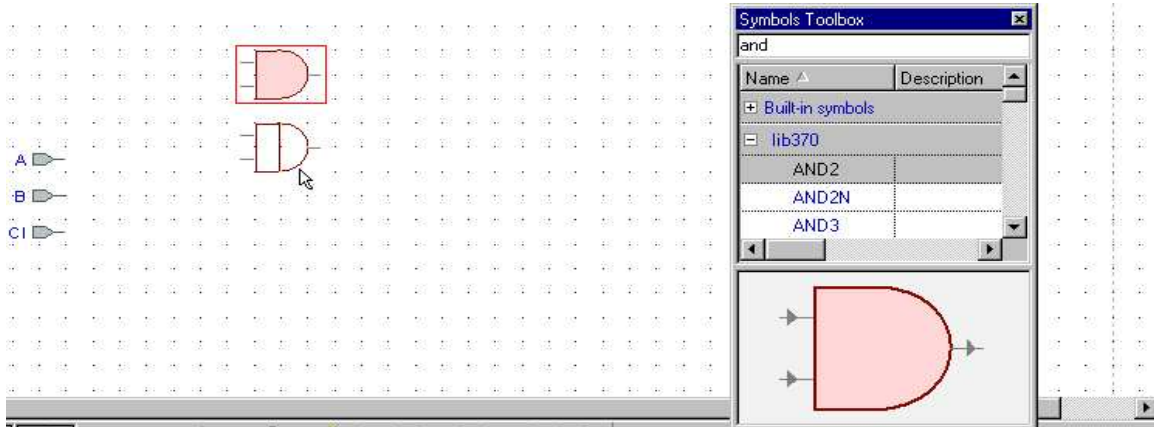

Figure 19
- Active-HDL uses the standard Windows user-interface to select, move, and copy items in the schematic (i.e., drag, Ctrl-drag for copying multiple parts, Ctrl-z for undo, etc.). Figure 19 is an example of Ctrl-drag.